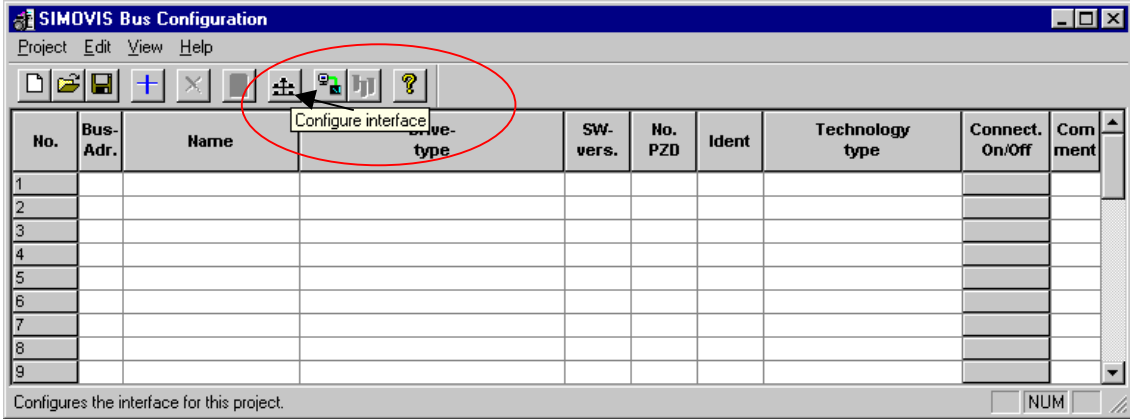
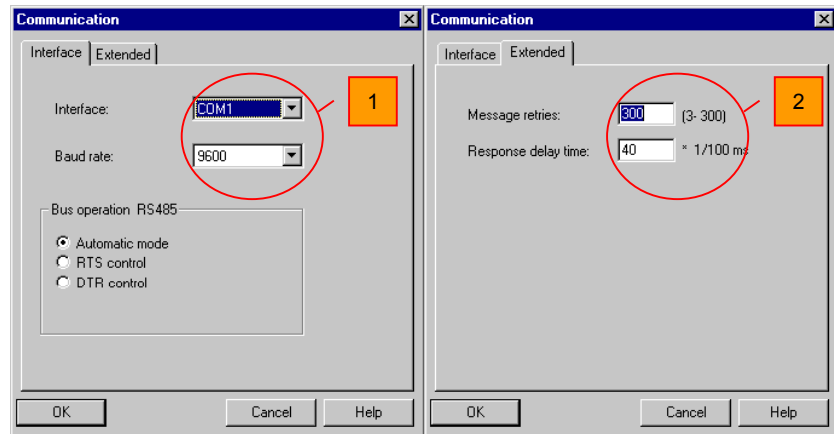

Fig. 5-10 Configuring the interface
Fig. 5-11 Communication
If the toolbar is being displayed, click on button *Configure interface* (see Fig. 5-10) or select the menu command *Edit → Interface*. In window "Communication" you can then specify the required COM interface of the PC (COM1 to COM4) and the required baudrate (see Fig. 5-11[1]).
- ◆ Request repetitions and response timeout on tab card "Extended", (see Fig. 5-11 [2]). Here, you can increase the values already set if communication errors occur frequently.